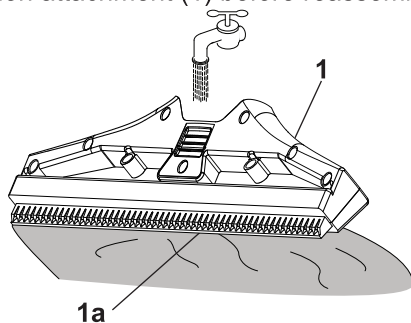

Fig. 10
- > Disassemble the suction attachment (1).
- > Clean the chamber and the rubber strip (1a) with water (Fig.10).
- > Dry the whole suction attachment (1) before reassembling.